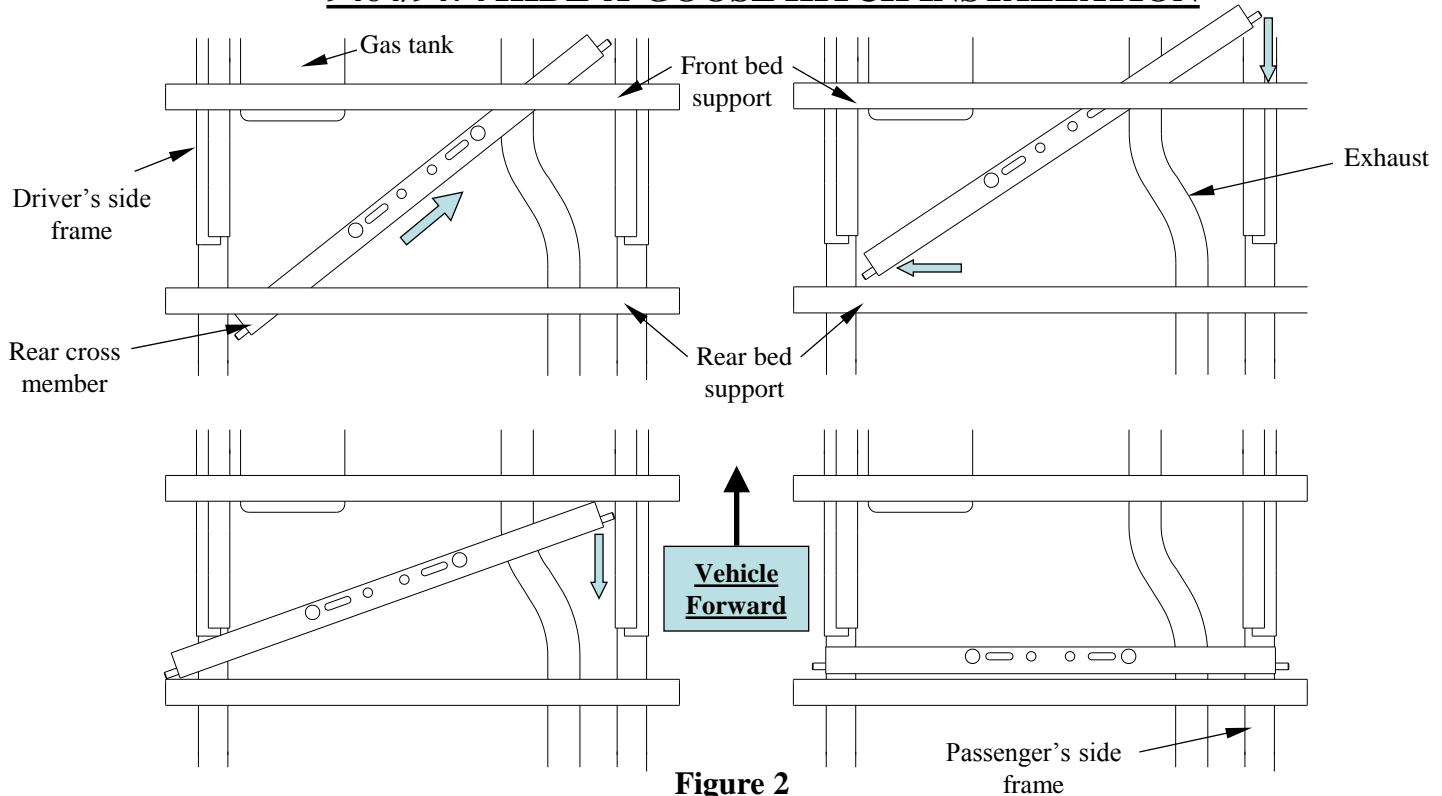

Figure 2
4. From underneath the vehicle, install the **rear** hitch cross member first by placing the right end over the exhaust and under the front bed support (see Figure 2). The front and rear cross members are the same.
6. Slide the left end of the cross member to the left over the frame, then rotate the right side back and over the passenger's side frame. Push the rear cross member back against the rear bed support as shown in Figure 2.